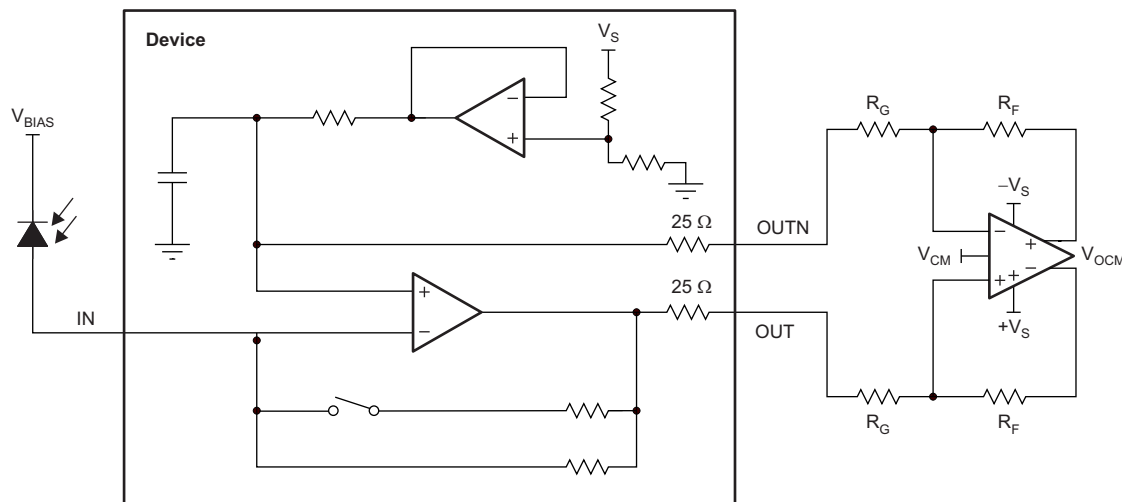

Figure 39. TIA with Associated Signal Chain
The OPA857 requires a photodiode to be connected to the positive bias voltage because the output voltage can only swing down from the reference voltage (+1.85 V for a +3.3-V supply) to ground. Figure 39 presents the signal chain before and after the OPA857.
Maintain a 200- Ω differential minimum load to make sure that the device bandwidth is not reduced because the open-loop gain of the OPA857 varies with loading; refer to Figure 1 and Figure 3 in the Typical Characteristics section. At a 100- Ω differential load, the OPA857 has an 87-MHz bandwidth instead of 130 MHz. In the high-gain configuration, heavier loading also has higher attenuation that further reduces the amplifier gain for a 500- Ω load resistance. Suitable fully-differential amplifiers for the signal chain have a sufficient 0.1-dB to 100-MHz bandwidth to make sure that the overall system performance is not reduced. Figure 39 shows a diagram of an associated signal chain.
- Although single-ended to differential conversions for connecting the device to the fully-differential amplifier is acceptable, best noise performance is achieved with the fully-differential connection described in Figure 39.
As a worst-case example, compute the maximum T_J using an OPA857 in the circuit of Figure 39 operating at the maximum specified ambient temperature of +95°C. Equation 6 and Equation 7 calculate P_D and maximum T_J , respectively.